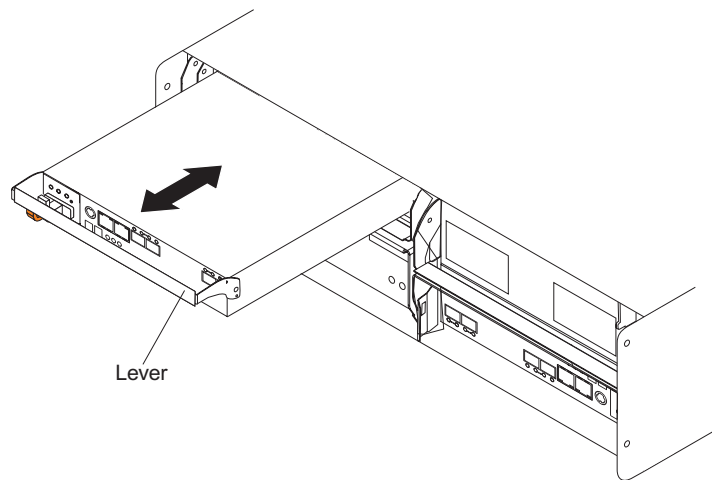

Figure 75. Removing a controller from the DS3950
9. Slowly pull the lever away from the chassis to remove the controller from the bay. Use two hands when releasing the controller levers. Figure 75 shows the controller sliding from the storage subsystem chassis.